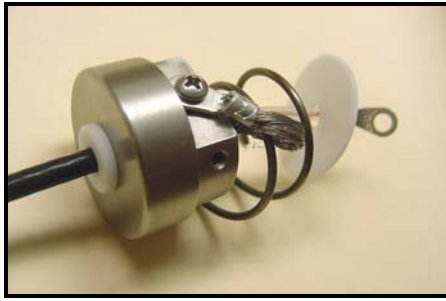

Figure 4 – Cable Assembly Through Step 8
1. Put the small diameter end of the PEEK Bushing (1) into the hole in the center of the large diameter end of Adaptor Plug (4) (See Figure 4 for relationship.)
2. Thread the Shielded High Voltage Cable (Not included in Kit) through the larger diameter end of the PEEK Bushing (1). Leave 8-10 inches of cable exposed for working room.